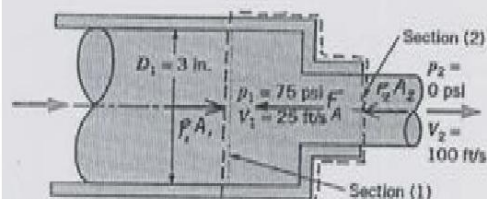

FIGURE P5.41
5.41 Water enters the horizontal, circular cross-sectional, sudden contraction nozzle sketched in Fig. P5.41 at section (1) with a uniformly distributed velocity of 25 ft/s and a pressure of 75 psi. The water exits from the nozzle into the atmosphere at section (2) where the uniformly distributed velocity is 100 ft/s. Determine the axial component of the anchoring force required to hold the contraction in place.